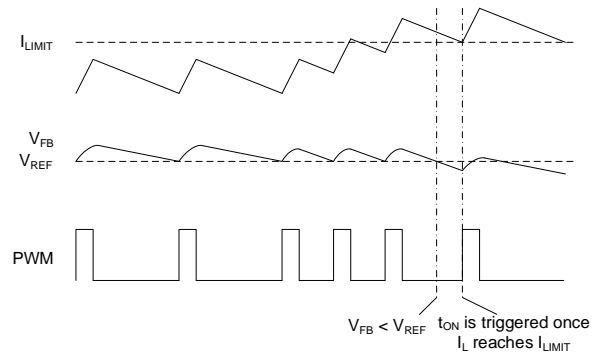

Figure 8: Valley Current-Limit Control
The MP8638 provides cycle-by-cycle over-current (OC) limiting. The current-limit circuit employs a valley current-sensing algorithm. The on resistance of the LS-FET is used as a current-sensing element. If the magnitude of the current-sense signal exceeds the current-limit threshold, then PWM cannot initiate a new cycle, regardless of whether V_{FB} is below V_{REF} . Figure 8 shows the valley current-limit control (see Figure 8).